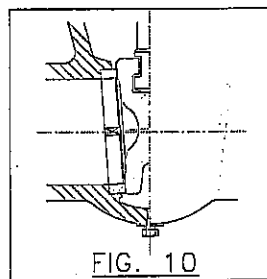

FIG. 10
- *Figure 10* ► it represents a plug of drain connection its location will be done according to the customer's instructions .